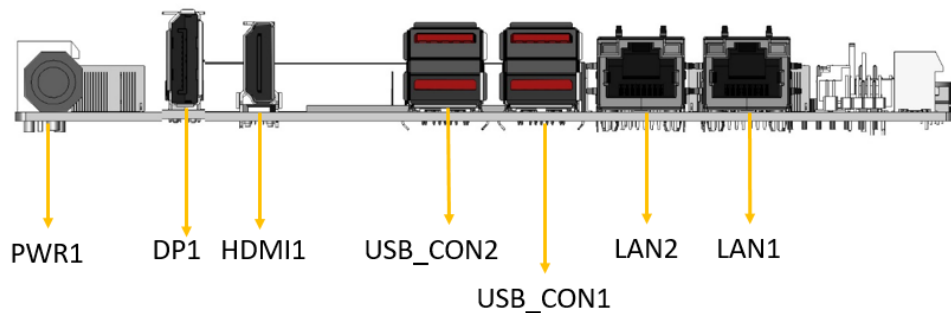

Figure 3-26: External Peripheral Interface Connector
Figure 3-26 shows the KINO-TGL-U external peripheral interface connector (EPIC) panel.
- CN Location:** See **Figure 3-26**
CN Location: See **Figure 3-26**
Table 3-24: HDMI Connector Pinouts**Figure 3-28: HDMI Connector Pinout Locations****3.3.3 LAN Connectors****CN Label:** LAN1, LAN2**CN Type:** RJ-45**CN Location:** See **Figure 3-26****CN Pinouts:** See **Table 3-25** and **Figure 3-29**
Table 3-26: Connector LEDs**3.3.4 Power Connector (Power Adapter)****CN Label:** PWR1**CN Type:** DC jack**CN Location:** See **Figure 3-26**